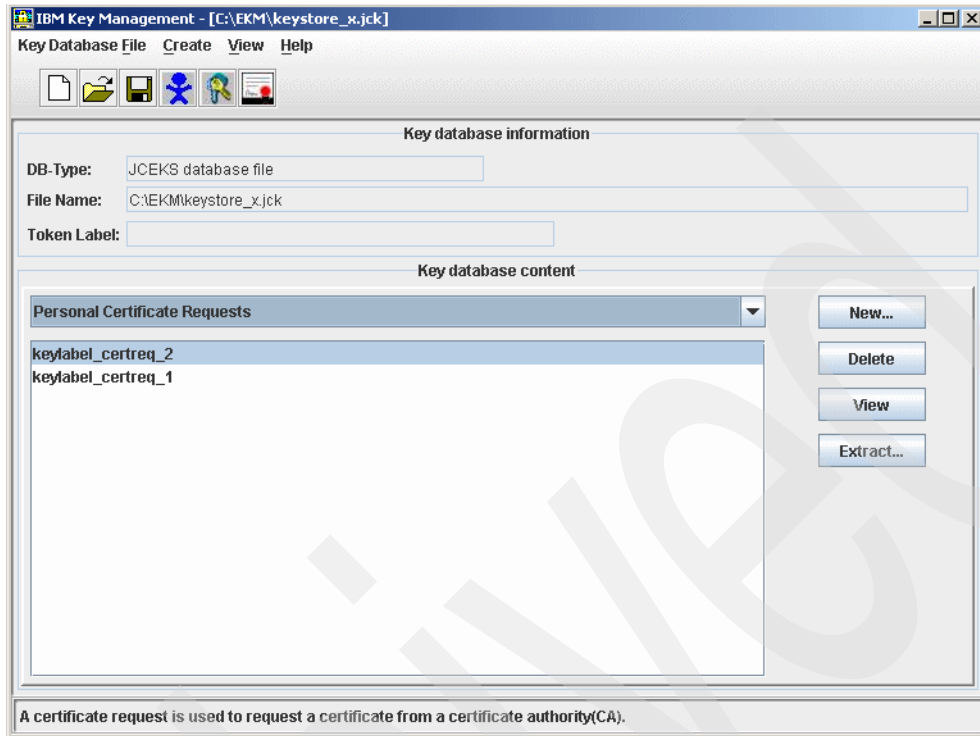

Figure 6-24 Certificate request created
4. The IBM Key Management window shows the key labels for the certificate requests you create. In this example, we created two certificate requests, as shown in Figure 6-24.